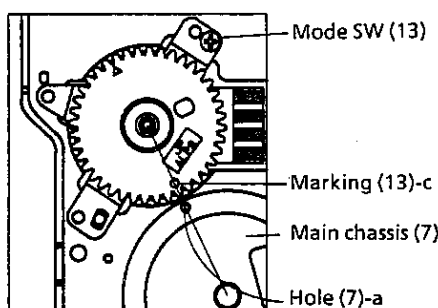

Figure 7-5-13(a)
- 2) Cover the upper part of dew sensor (14) with paper (do not use adhesive paper), and solder the 4 places of terminal (13)-b of mode SW (13) with due care so that the gear (13)-a of mode SW (13) is not damaged by the soldering iron. At this time take care so that the solder does not contact other adjacent pattern.
- 3) Arrange the marking (13)-c of gear of mode switch (13) so that it matches with the hole (7)-a of main chassis. (See Figure 7-5-13(a).)